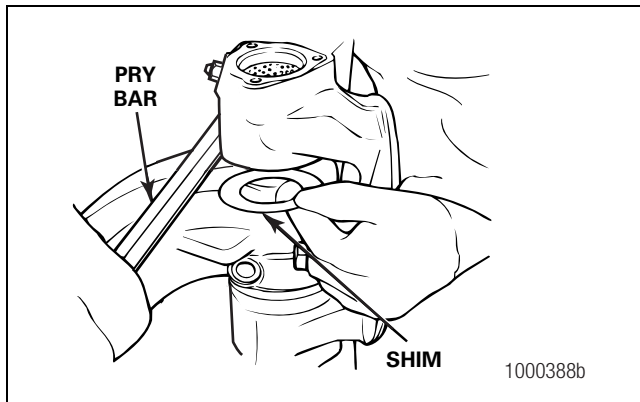

Figure 6.16
- Place a pry bar between the steering arm boss and the axle beam. Lift the knuckle and slide the shim pack between the top of the beam and the knuckle. Figure 6.16.